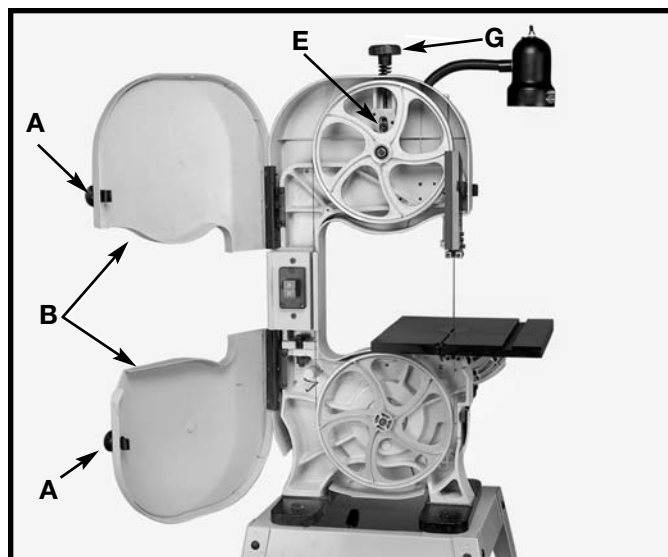

Fig. 35
1. Pull door latches (A) Fig. 35 and open doors (B).
3. To release tension on the band saw blade loosen screw (E) and turning tension knob (G) Fig. 35 counterclockwise.
9. Close the doors (B) Fig. 35 before operating saw.